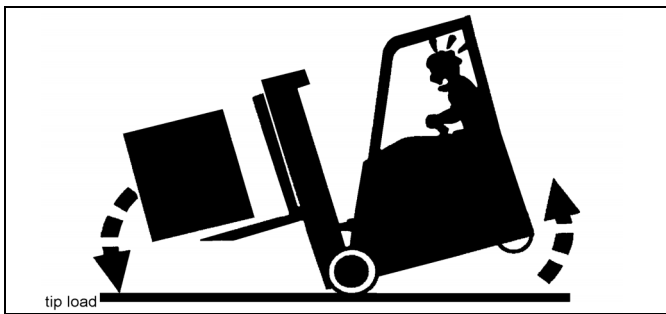

Figure 4-9: Tipping a Load
- Make sure you insert forks fully into the pallet. Do not “tip load”. See Figure 4-9.